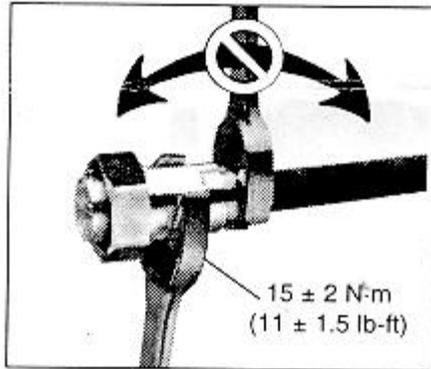

Figure C-7 Mounting connector cap
- 9) Mount the connector cap. Screw the connector cap while keeping the fixing nut still, as shown in Figure C-7.